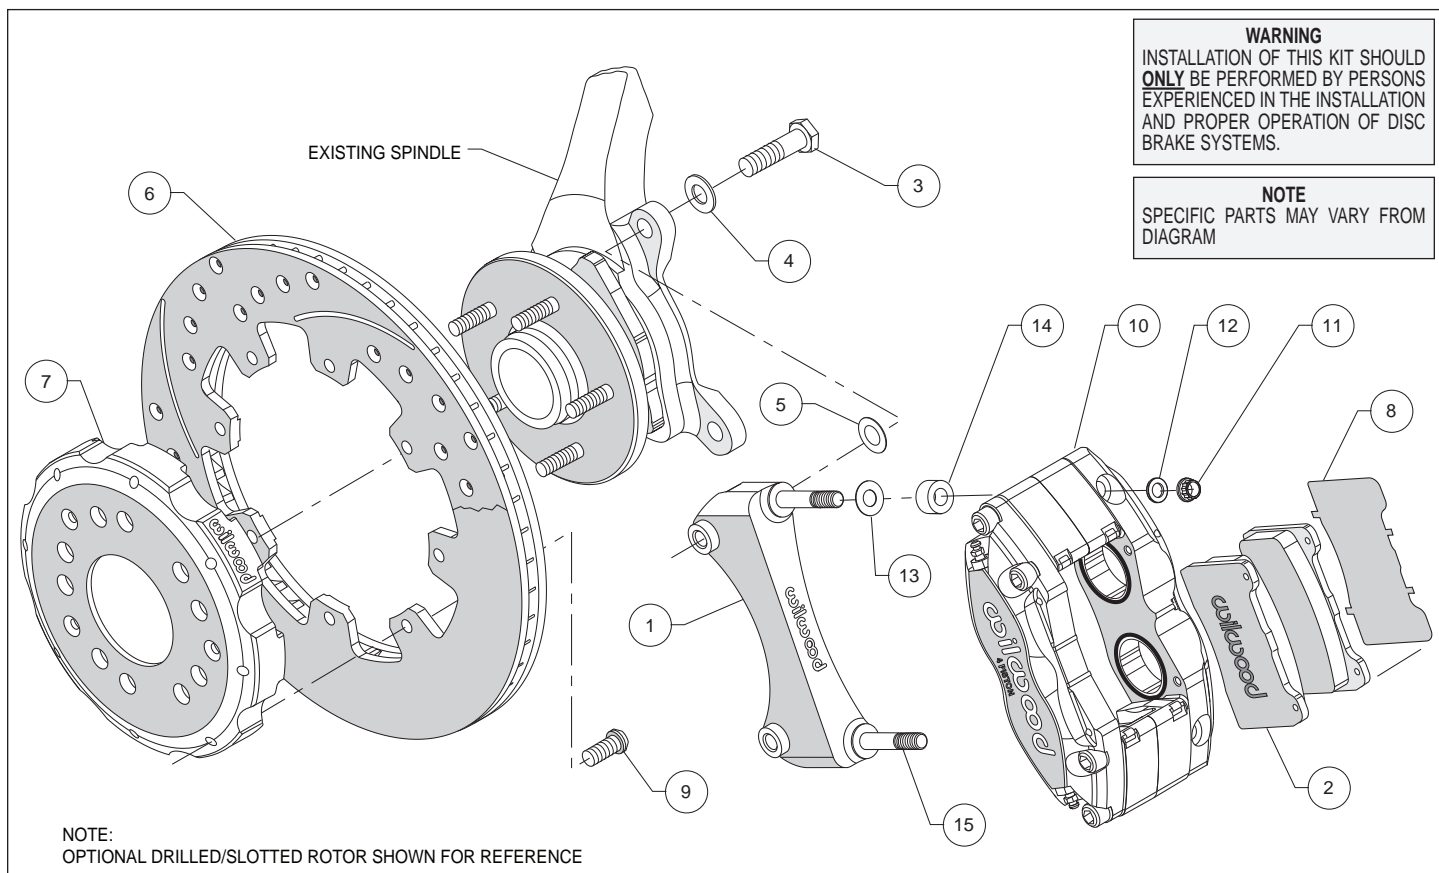

Figure 1. Typical Installation Configuration
- The caliper mounting bracket assembly (1) should be installed first with clean, dry threads on the mounting bolts. Install the bracket from the front side of the spindle by sliding bolts (3) through washer (4), as shown in Figure 1. Place shim (5) between the bracket and the front side of the spindle, Figure 1. The bracket must tighten squarely against the side of the spindle body. Inspect for interference from casting irregularities, machining ridges, burrs, etc. Use one thin shim (5) between the spacer and spindle during initial trial fitting.
- With the larger I.D. side of the rotor (6) facing away from the hat (7), attach rotor (6) to hat (7) using bolts (9) as shown in Figure 1. Using an alternating sequence, remove bolts (9) one at a time, apply red *Loctite*® 271 to the threads, and torque to 25 ft-lb. **NOTE:** *The rotor hat included in this kit is a multiple use part and has two 5 x 4.50" bolt circles. For correct use in this application, use the bolt circle with the smaller diameter (.484") stud holes. For further reference, check the inside face of hat assembly, one of the smaller diameter stud holes will have a circular reference mark engraved around its circumference. Do not use the larger diameter stud holes, as rotor and hat will not center correctly on hub.*
- NOTE:** *Please reference the caution statement at the beginning of the assembly instructions.* Install one shim (13) and spacer (14) over each pre-installed stud (15) on the radial mount bracket (1). Slide the caliper (10) in place over the studs and rotors and install the washer (12) and lock nut (11) to hold the caliper in place. Snug the lock nuts (11) and check that the rotor (6) is centered in the caliper (10). Add or subtract .020" shims (4) as necessary between the bracket (1) and the spindle to center the caliper (10).
- Remove the caliper quick-clip pad retainer from the caliper. Remove the protective material from the adhesive side of the anti-squeal shims (8) and place against the backing plate side of the brake pads (2) utilizing the contour of the backing plate as a guide. Secure material to backing plate by bending the four tabs over the edge of the backing plate. Slide the brake pads (2) with the shims into place. They should install easily without interference. Check that the outside radius of the brake pad is aligned with the outside diameter radius of the rotor face. Add or subtract shims (13) between the caliper and mount bracket to gain the proper alignment. Reinstall the quick-clip pad retainer.
- Once all clearances have been checked, remove the wheel, caliper, hat, and rotor from the spindle and hub. Secure the caliper mounting bracket (1) to the spindle using red *Loctite*® 271. Torque the bolts to 60 ft-lbs. Reinstall the hat and rotor assembly and again use several lug nuts to hold it in place. Lubricate caliper mounting studs and nuts with lightweight oil, reinstall the caliper, torque the caliper nuts (11) to 30 ft-lb.